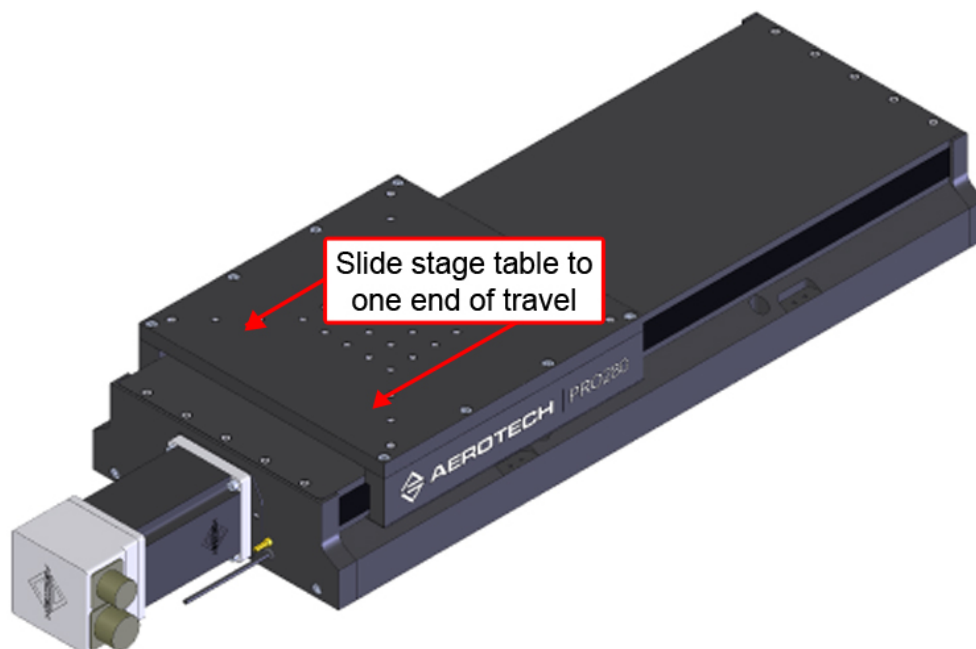

Figure 4-1: Hardcover Removal Procedure (Step 1)
1. Drive the stage table to one end of travel (Figure 4-1) and remove power to the stage.